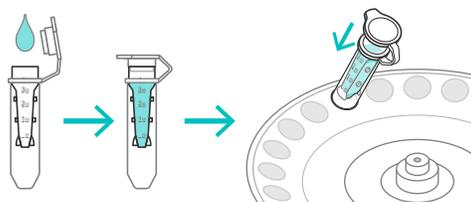

Figure 3. Orientation of the Amicon Ultra-0.5 mL Centrifugal Filter Unit.
- The single-use tubes of MCP9 polymer and TCEP solution should be used only once and immediately after thawing to room temperature (RT). Avoid multiple freeze-thaw cycles.
- Make sure to place the flat white filter section so that it faces the cap strap, and place the cap strap so that it faces the center of the centrifuge rotor (see Figure 3).
4:35	<p>Wash the metal-conjugated antibody.</p> <p>35 (Conjugated antibody wash 1) After the incubation is complete, retrieve the 50 kDa filter unit from the water bath, and then add 200 μL of W-Buffer to the 50 kDa filter containing 100 μL antibody conjugation mixture (total volume approximately 300 μL).</p> <p>36 Mix gently by pipetting, and then transfer contents to the newly labeled 100 kDa filter unit from Step 34.</p> <p>37 Add another 100 μL of W-Buffer to the 50 kDa filter, mix gently by pipetting to rinse the filter, and then transfer all contents to the 100 kDa filter.</p> <p>38 Centrifuge at 5,000 $\times g$ for 10 min.</p> <p>NOTE If an antibody conjugation mixture fails to flow through the filter, verify the correct orientation of the filter in the centrifuge (see Figure 3) and try again, or centrifuge the mixture at 8,000 $\times g$ for all wash steps.</p> <p>39 Discard column flow-through from centrifugation.</p> <p>40 (Conjugated antibody washes 2–4) Repeat wash 3 more times with W-Buffer (for a total of 4 washes).</p> <p>a Add 400 μL of W-Buffer, centrifuge at 5,000 $\times g$ for 10 min, and then discard flow-through.</p> <p>b Add 400 μL of W-Buffer, centrifuge at 5,000 $\times g$ for 10 min, and then discard flow-through.</p> <p>c Add 400 μL of W-Buffer, centrifuge at 5,000 $\times g$ for 10 min, and then discard flow-through.</p>